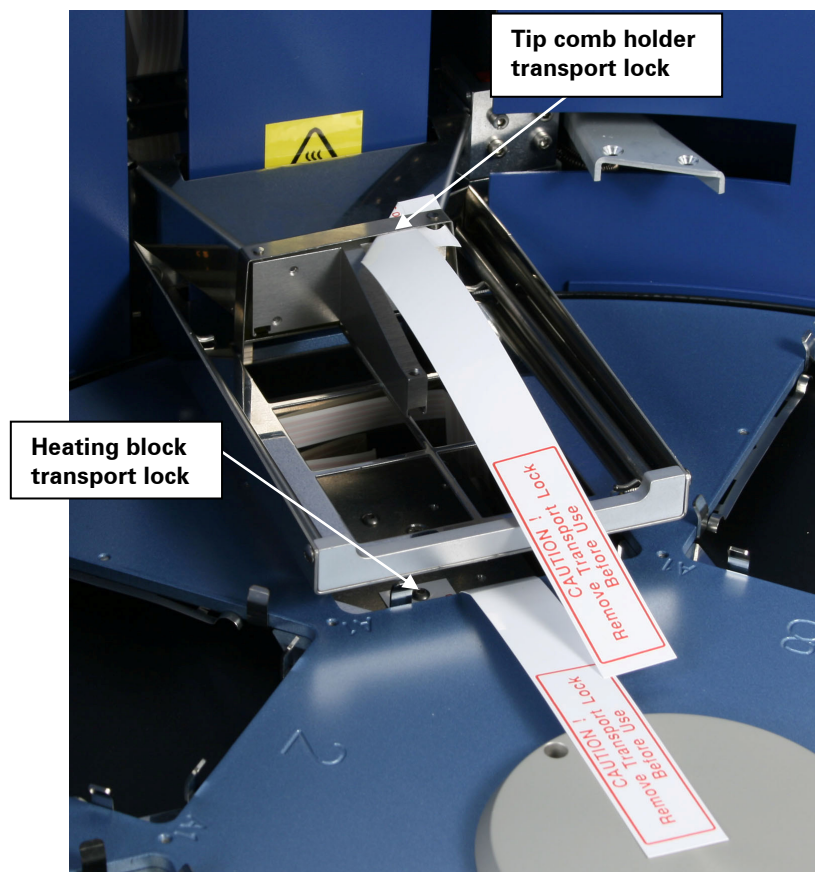

Fig. 5.1 MagMAX™ Express 96 transport locks fitted
**Note:** THERE ARE TWO TRANSPORT LOCKS PRESENT (Fig. 5.1): the tip comb holder transport lock, and the heating block transport lock. Remove both the transport locks. Ensure that the transport locks have been released before you put the instrument into operation.